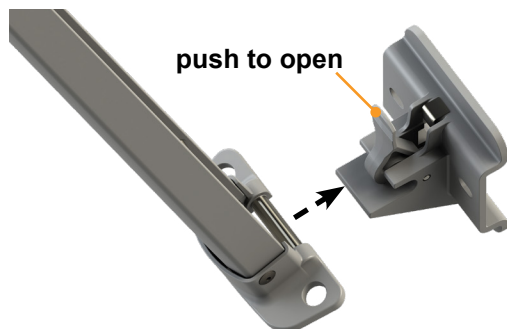

Fig.8
7. Lift the support arm assembly up and secure the feet into the previously installed bottom mounting brackets by pressing the lever and opening the latch (Fig.8).